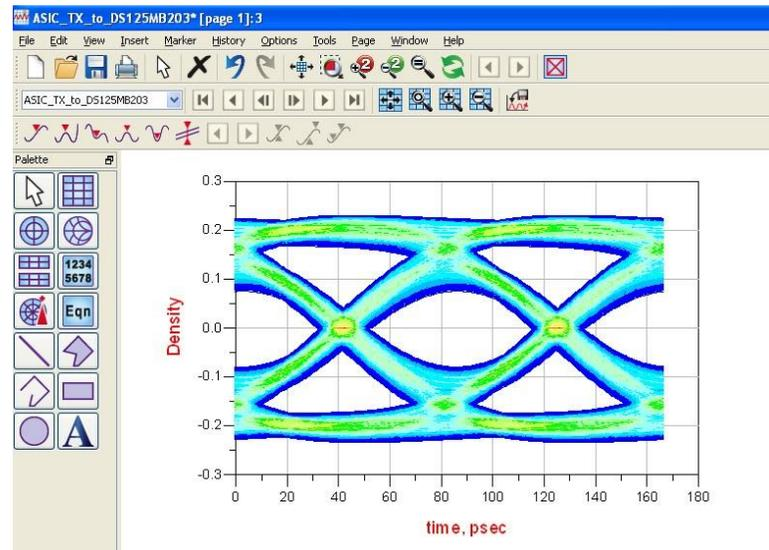

Figure 4: Eye plot for ASIC TX to DS125MB203 RX link
8. The eye plot will appear in the plot window, as shown in Figure 4. Note that this is a plot of the eye as it appears after the DS125MB203’s equalization, but before the TX de-emphasis and VOD is applied.